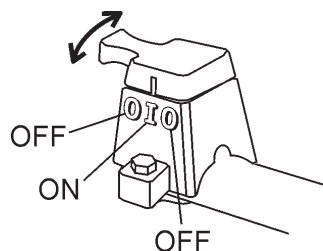

Figure 46. Engine Shutdown Switch (handlebars)
2. Turn the **engine Shutdown switch** located on the handlebars (Figure 46) to the "OFF" position. Shutting the engine off using this switch confirms that it is functioning properly.
3. Turn the **engine Shutdown switch** located on the handlebars (Figure 46) to the "OFF" position. Shutting the engine off using this switch confirms that it is functioning properly.